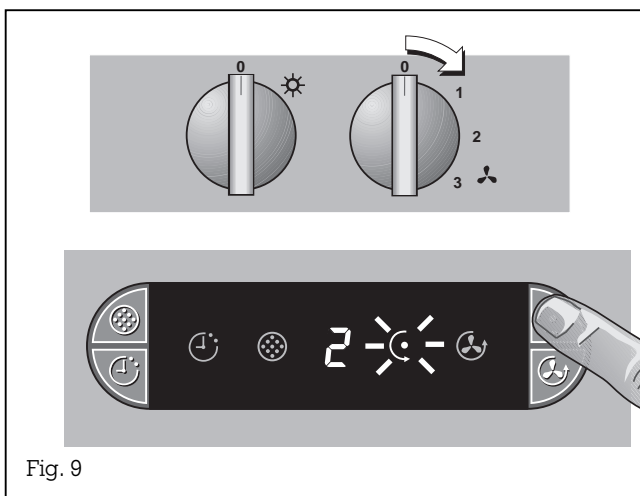

Fig. 9
- The level you have set and the Coanda level symbol appear on the display (Fig. 9).